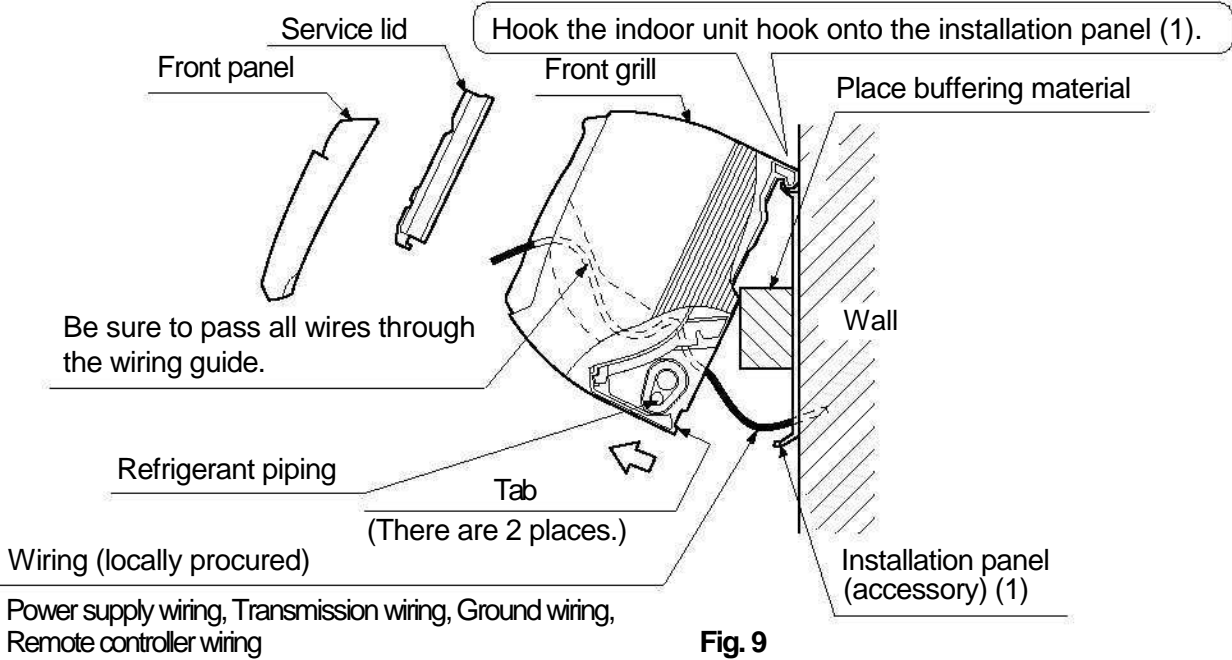

Fig. 9
(6) Hook the indoor unit onto the installation panel. (Refer to Fig. 9)
(9) Push on both bottom edges of the indoor unit using both hands and hook the tab on the back of the indoor unit onto the installation panel (1). (Refer to Fig. 9) • At